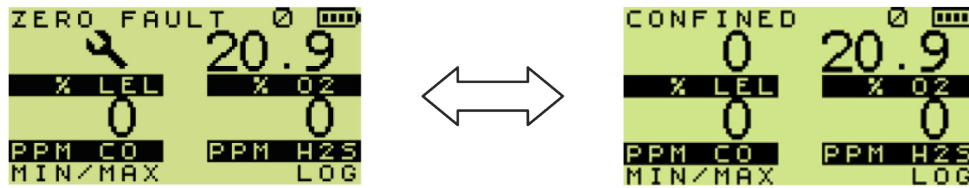

Figure 28: Zero Fault
1. 'ZERO FAULT' and a wrench symbol alternating with a zero reading, as illustrated in Figure 28: Zero Fault.